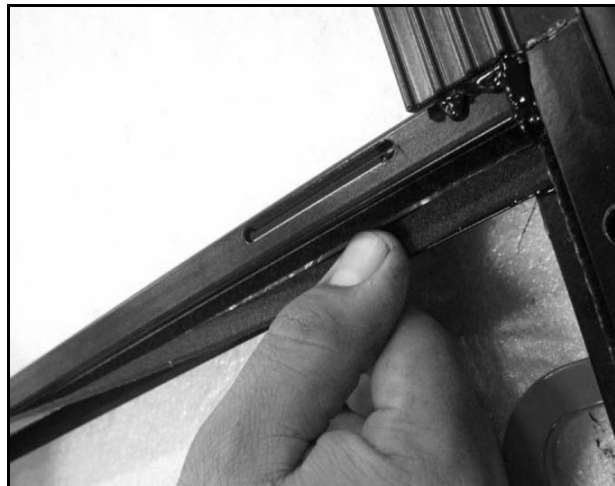

FIGURE 3-19. REPLACE FOAM IF NECESSARY
- 4) Refer to **Figure 3-19**. If necessary replace foam.